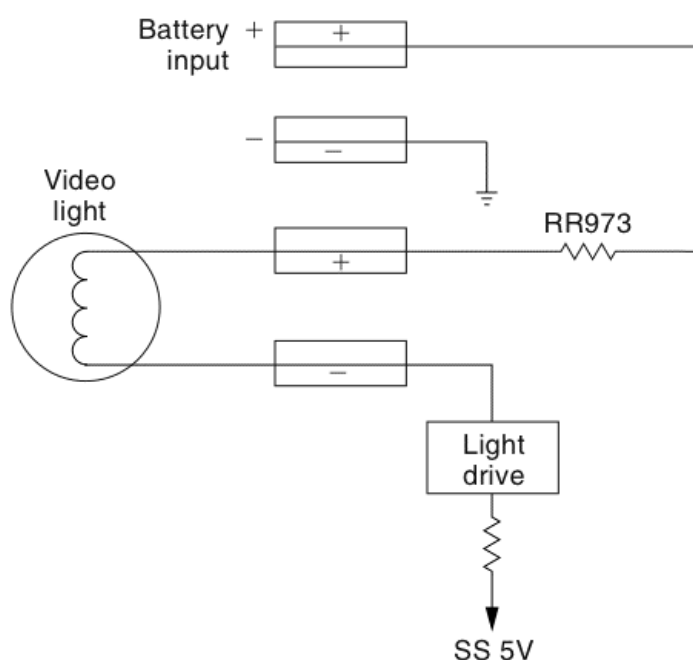

FIGURE 35-23 The 8-mm video light circuits.
The video light is used when there is insufficient light in a given area for proper lux readings of the camcorder. The light turn on switch is found in the C-key unit with the camera and VTR switches. The light on (L) connects from C-key unit to pin 8 of CN109 and pin 8 of CN002. The on return is applied to switch transistor Q1901 and light drive transistor Q1902 (Fig. 35-23). The output of the light drive transistor goes to one side of the video light bulb while the other lead ties into the battery +6-V terminal. RR973 provides correct voltage to the video light bulb.